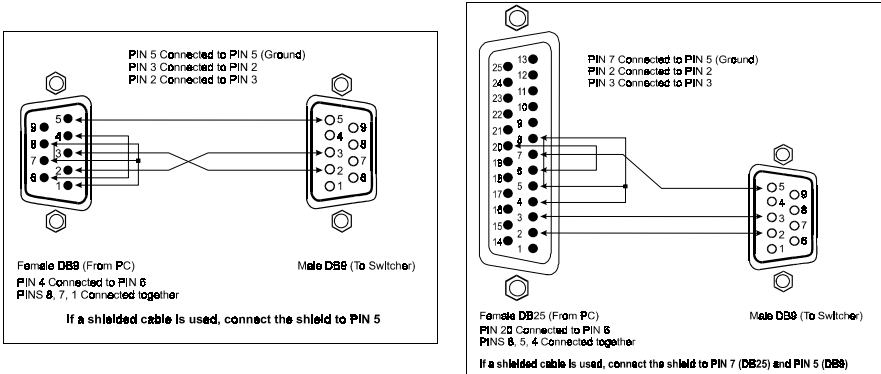

Figure 2: Connecting a PC without using a Null-modem Adapter
- Connect the RS-232 DB9 port on your PC to the *To PC* DB 9 RS-232 rear panel port on the **OMX-9003**, as Figure 2 illustrates (depending on whether the PC has a 9-pin or 25-pin connector)